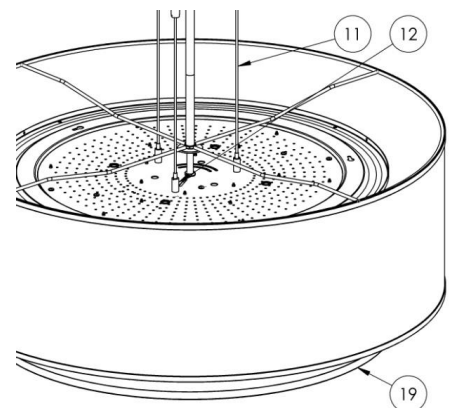
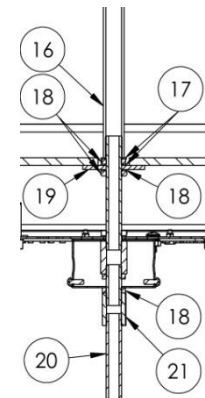

FIG 2
FIG 4
Step 2 – Assembly fixture (Fig 2, 3, 4)
- A center pipe stem is supplied with this fixture consisting of up to three, 12" long pipe sections (16) to be connected with pipe nipples (14). Pre-assemble pipe stem. Using the nut & washers from strain relief (8), attach swivel (15) with nipple (14). Attach (pre-assembled) pipe stem to swivel. Route the power cord (9) from the pan nipple, through the hardware and center hole of outer diffuser per Fig 4. Attach the shade. Continue routing cord through pipe stem first, before attaching to fixture (Fig 2) above washer (17), nut (18) & diffuser (19).
- Feed the three aircraft cables (11) to the connectors (12) that are mounted on the pan. Insert the cable by pressing the "Spring Pin" (12) (Fig. 2) downward and holding until it comes out at the other end. Repeat these steps for the other cables.
- Take the fixture power cord wires (9) (Fig 2) and route from fixture, through the pipe stem, up through the canopy (6) to the junction box.